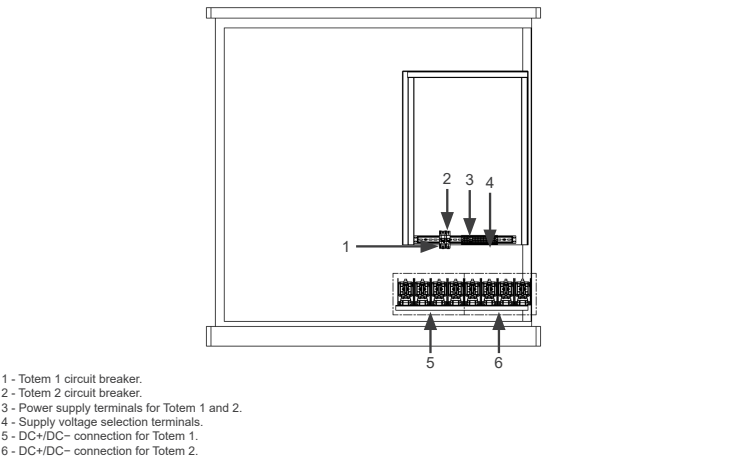

Figure 5.2: Supply voltage adjustment
3. Locate the XV terminal block set at the bottom of the Power Cabinet (Figure 5.2).
4. Using a 4 mm [0.16 in] screwdriver, remove the three (03) cables from terminals XV:R/S/T and reposition them to the R/S/T terminals marked 380, 440, 460, or 480 V, according to the desired supply voltage.
Connections to the terminals of the DC interconnection cables must be made on the busbars using ring terminals, either pre-insulated or compression type, as shown in Figure 5.2, items 5 and 6. The recommended tightening torque for the ring terminal screws is 84 Nm.